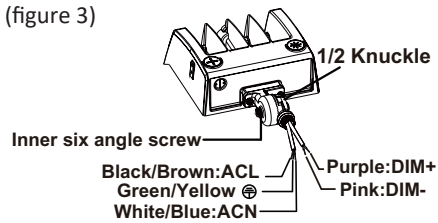
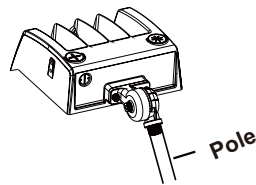

figure 1
figure 2
Step 2: Finish the wire connection according to the right mode of connection (pay attention to positive wire, negative wire, and ground wire), (figure 1).and then put wire into lamp pole;(figure 2)